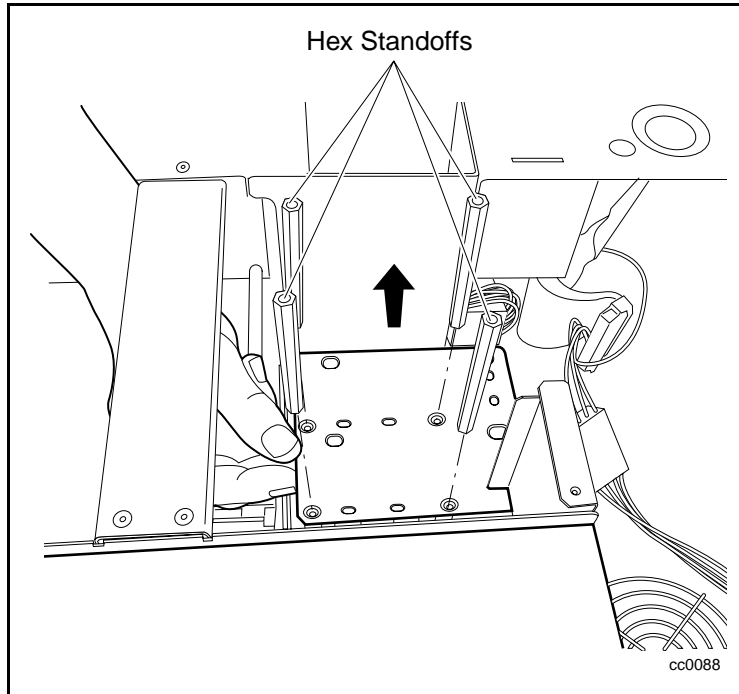

Figure 5-18. Removing the bottom drive mounting plate
4. Remove the four hex standoffs that secure the bottom drive mounting plate to the Library chassis (see Figure 5-18).
5. Lift the bottom drive mounting plate away from the Library chassis (see Figure 5-18).
3. Replace the bottom drive mounting plate (see Figure 5-18).
4. After adding Loctite, install and fully tighten the four hex standoffs (see Figure 5-18).